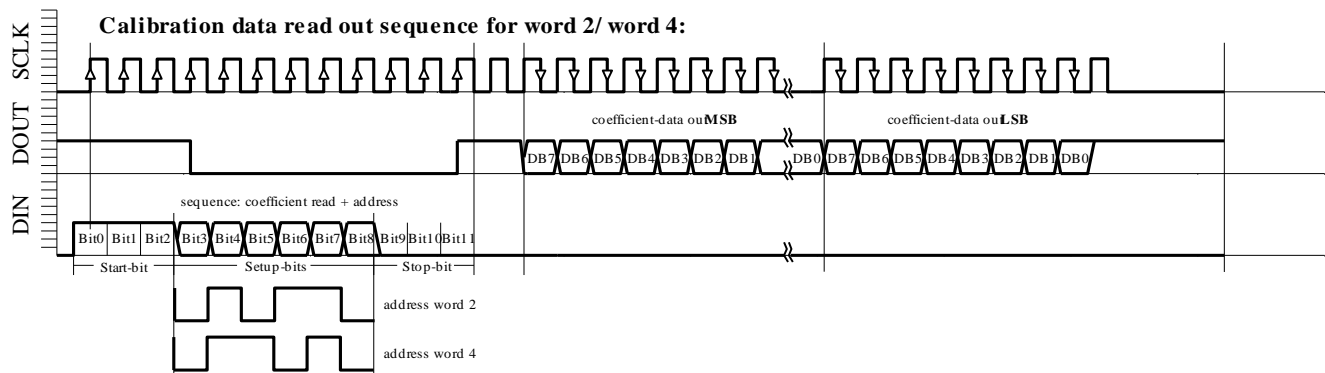

Fig. 6d: W2, W4 READING sequence
- ✦ Calibration data read-out sequence for Word2 (Figure 6d)
- ✦ Calibration data read-out sequence for Word4 (Figure 6d)